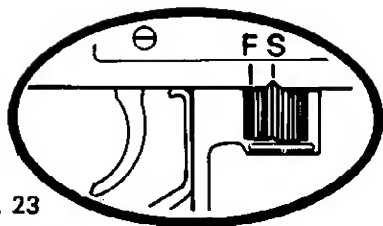

fig. 23
1. Place fire selector on "S" (Safe). (fig. 23)